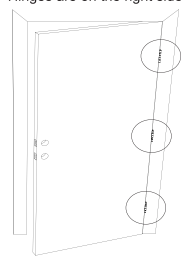

Figure 4b
- b. If the hinges are on the right, your door is Right Handed (Figure 4b).